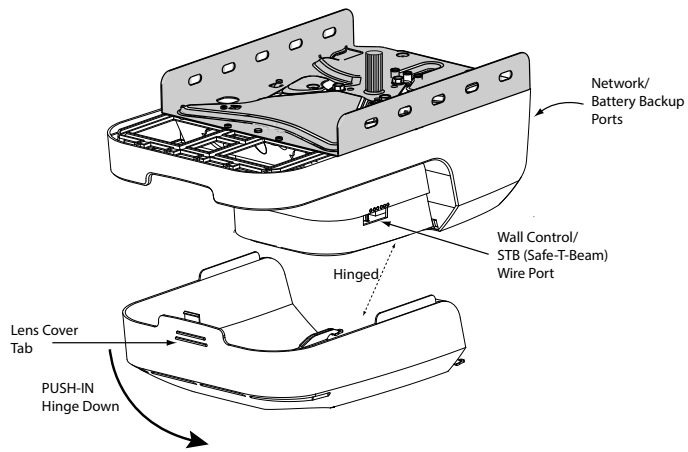

FIG. 1
3. Open Lens Cover by pressing middle tab inward and remove Light Bulbs. FIG. 1. (See reverse side)
4. Remove Wall Control and Safe-T-Beam wires from Terminal Block located on side of Opener FIG. 1. Use small common screwdriver to press in on orange tabs while gently pulling wires from block. Mark wires to help facilitate replacement.